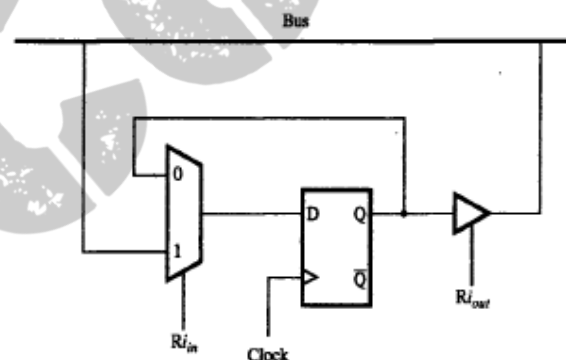

Figure 7.3 Input and output gating for one register bit.
- $R_{iin}=1$ \square mux selects data on bus. This data will be loaded into flip-flop at rising-edge of clock. $R_{iin}=0$ \square mux feeds back the value currently stored in flip-flop (Figure 7.3).